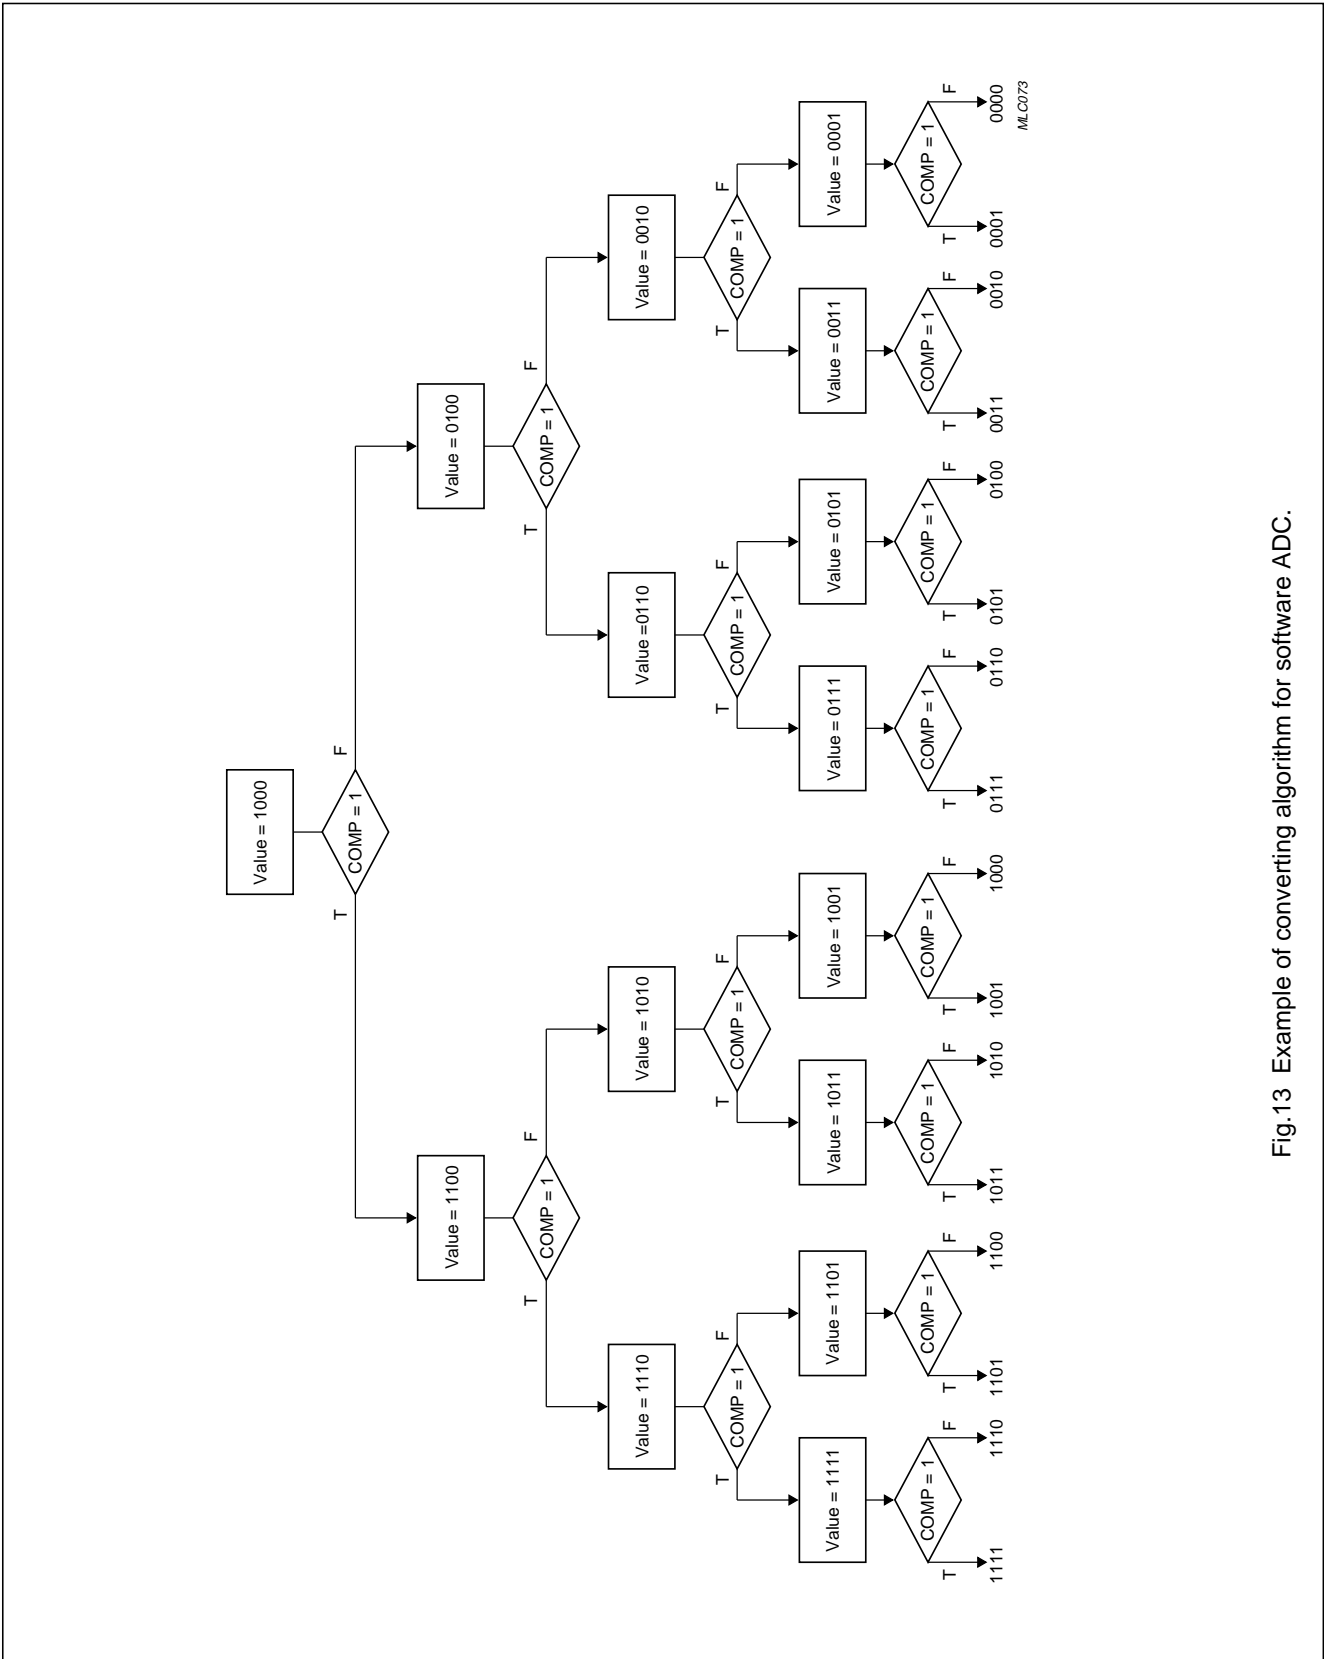

Fig.13 Example of converting algorithm for software ADC.
There are many algorithms available to achieve the ADC conversion. The algorithm described below and shown in Fig.13 uses an iteration process.
- 9. The operations detailed in 6, 7 and 8 above are repeated and each time the digital input to the DAC is changed accordingly; as dictated by the state of the COMP bit. The complete process is shown in Fig.13. Each time the DAC input is changed the number of values which the analog input can take is reduced by half. In this manner the actual analog value is honed into. The value of the analog input (V_A) is determined using Equation (4):